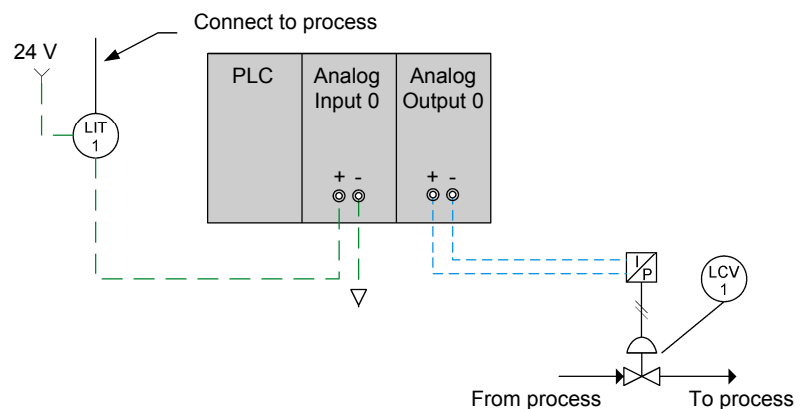

Figure 28. Typical connection for PID control.
1. Connect the PLC to the process as shown in Figure 28.